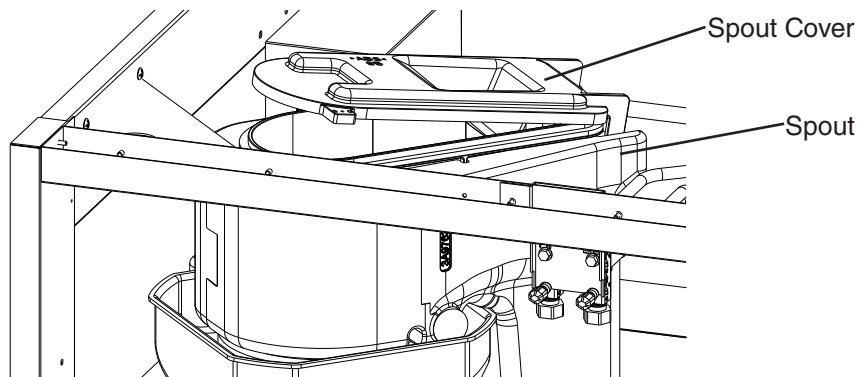

Fig. 16
- 6) "GM" LED and "COMP" LED are on. Open the spout cover slightly. See Fig. 16. "GM" LED and "COMP" LED turn off within 10 seconds and the control board sounds a 9 beep alarm. Close the spout cover.